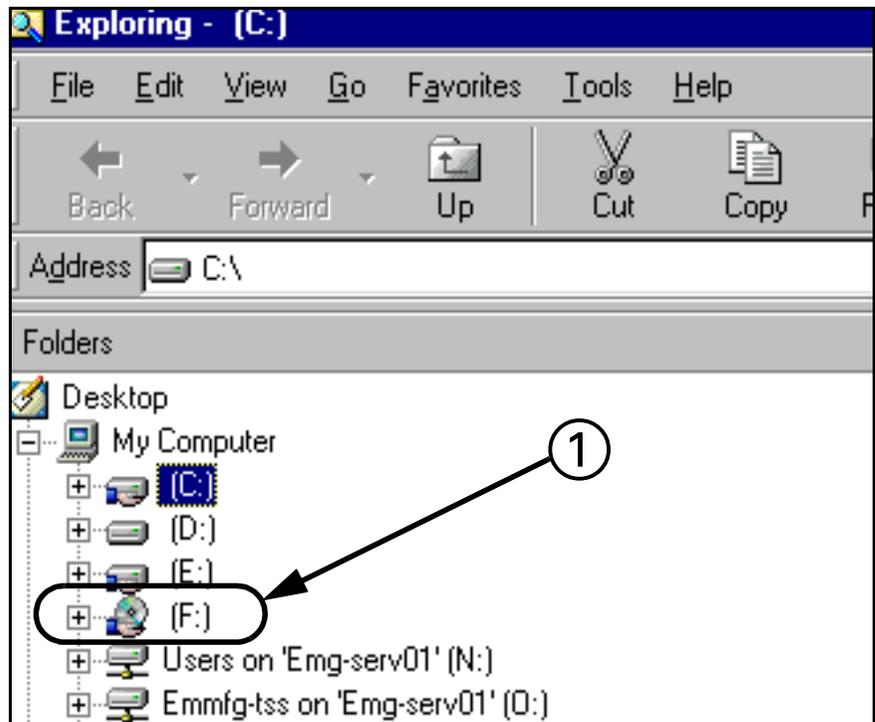

Figure 3-9 Explorer Window
3. Click on *CDROM* icon (1 in Figure 3-9) in left pane of "Explorer" window.